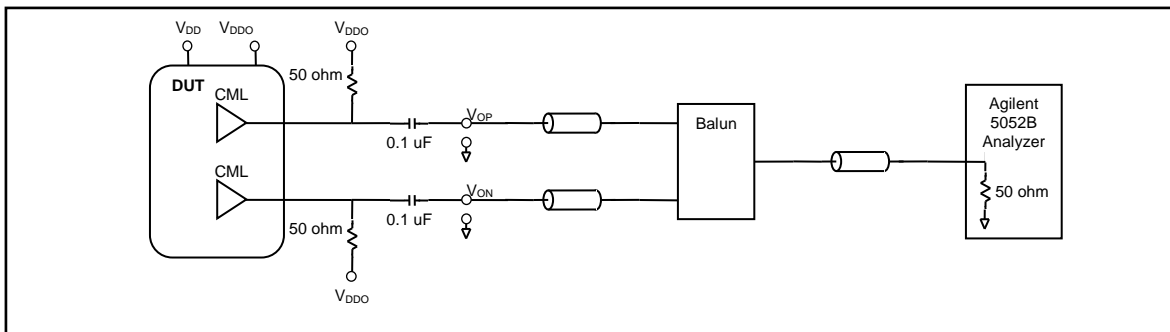

Figure 50. HPOUT_DIFF (CML) Output Jitter Test Circuit
* The jitter test circuit is shown in Figure 50
- * The jitter test circuit is shown in Figure 50